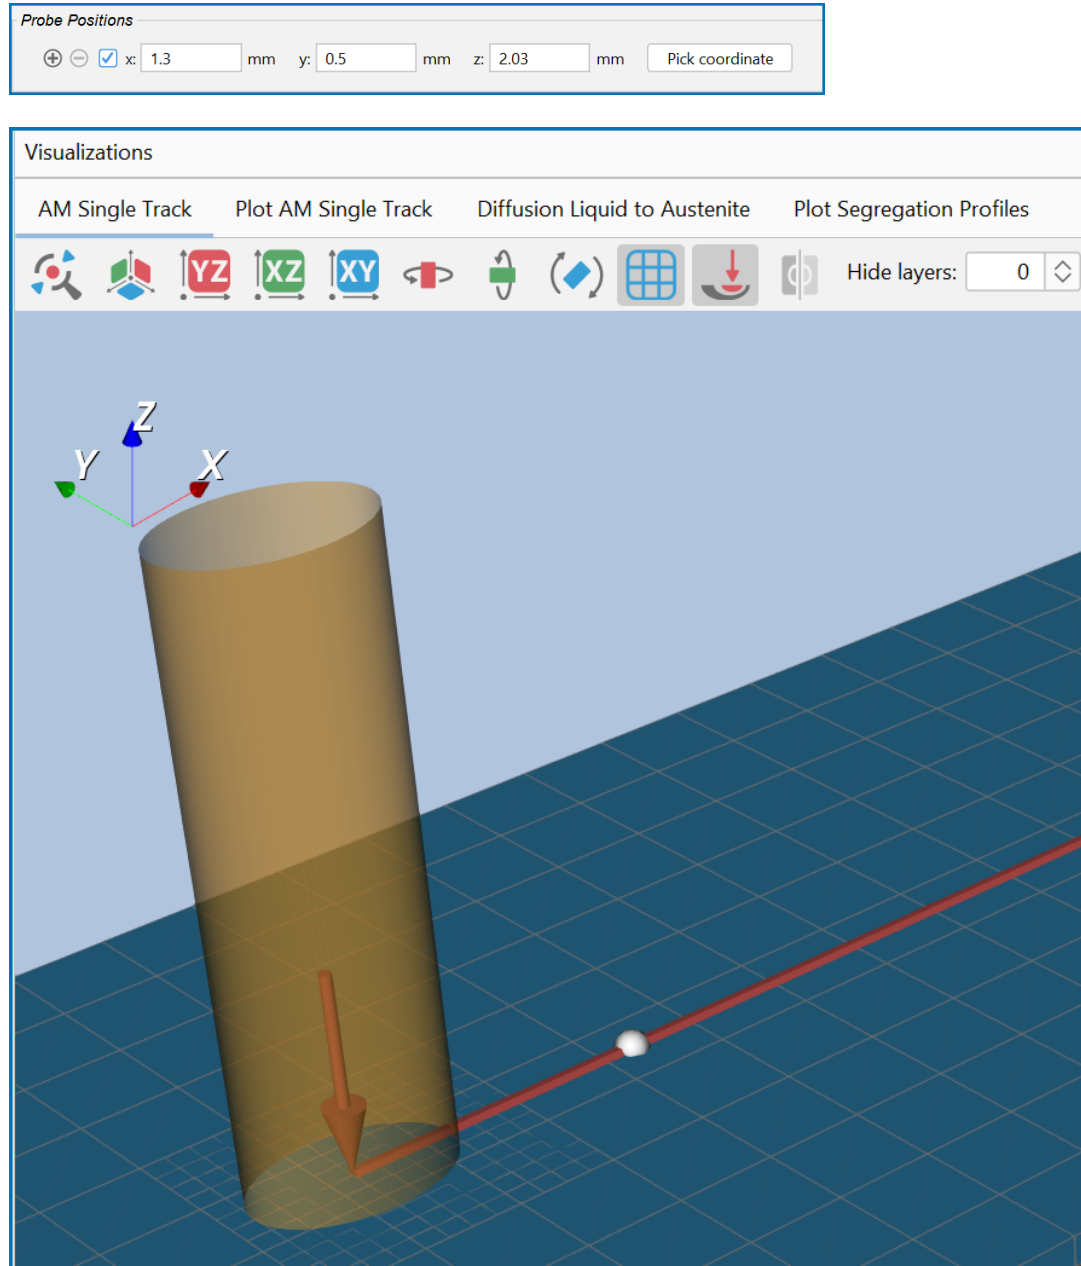

Figure 28: Close up of the probe point added to the geometry for the single track AM simulation.
- **Probes:** Probes are added to the AM Calculator during the set up either by entering coordinates or directly adding these to the geometry. See Figure 28 and Figure 29 for example.